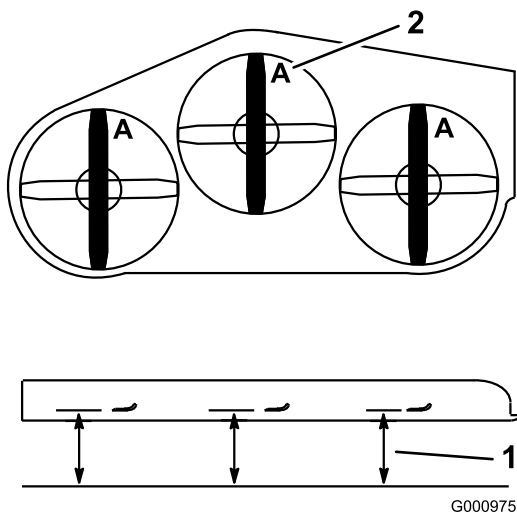

Figure 96
4. Measure from a level surface to the cutting edge, position **A**, of the blades (Figure 96).